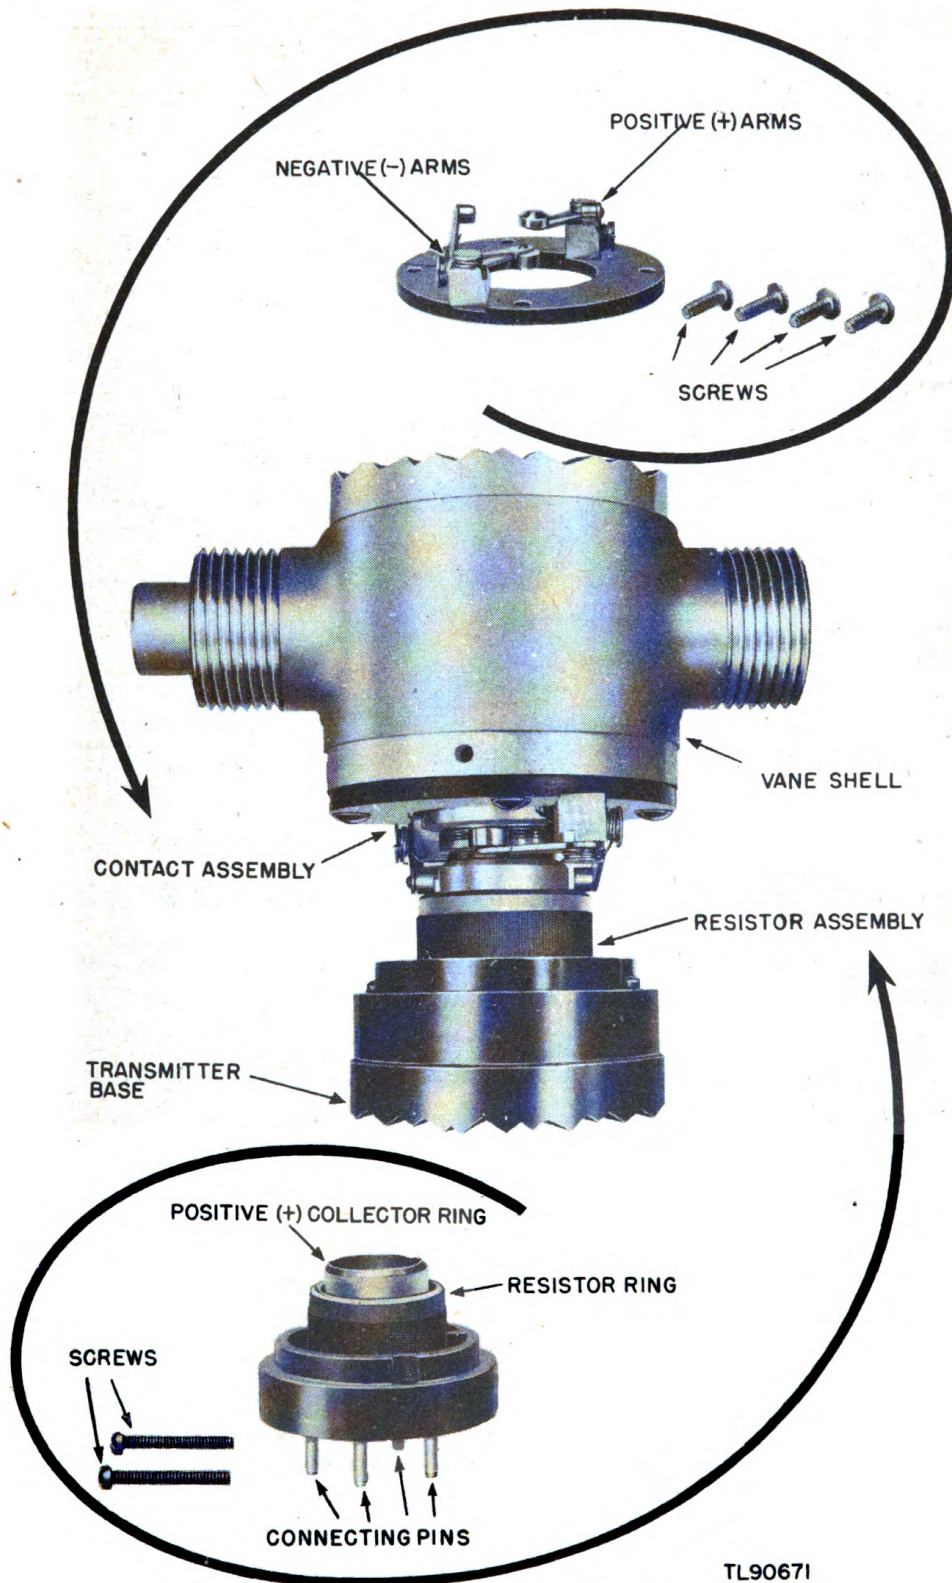

Figure 5. Wind vane rheostat assembly.
c. The wind vane assembly consists of a vane tail and a counterbalance attached to a rheostat unit (fig. 5) mounted on the central shaft of the transmitter, with the shaft and the base of the transmitter as part of the assembly. The rheostat unit is essentially a low-voltage d-c telemeter.